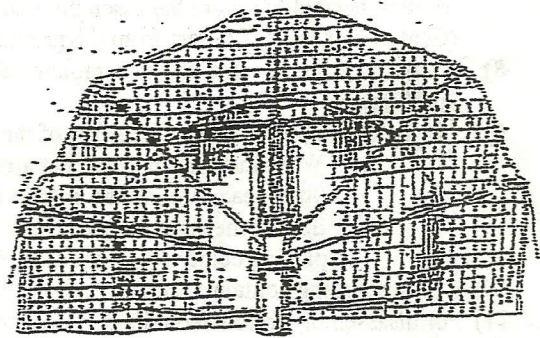

Fig. 4
- 8) Assistant will now hand up the complete net assembly for you to secure with the self-tapping screws. See (Fig. 4)